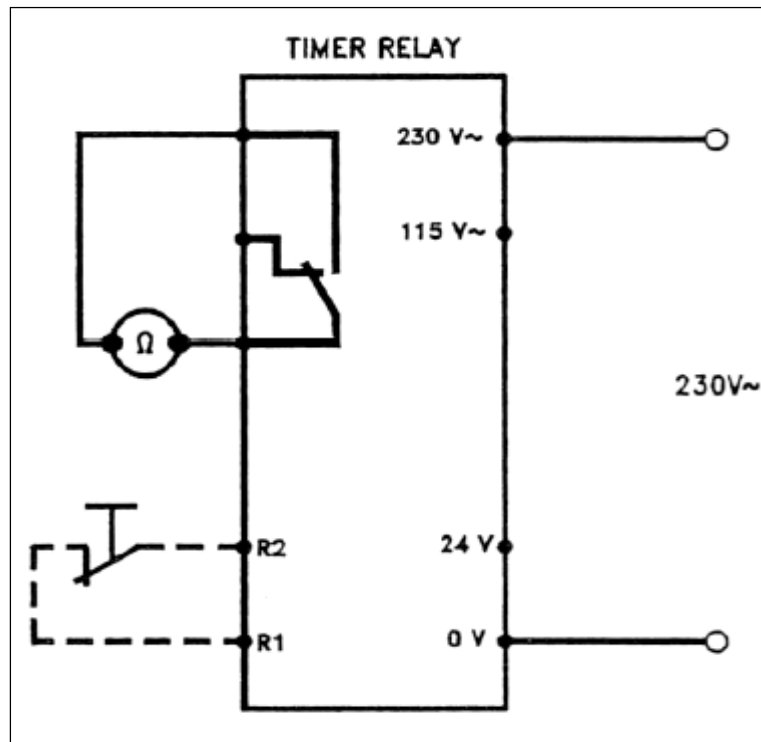

Figure 2.14 Usage diagram of a timer relay in different configurations 230-Vac power supply
1. Follow the electrical diagram of figure 2.14